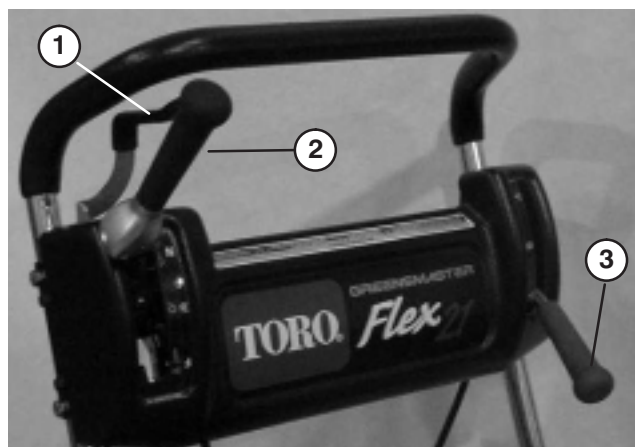

Figure 23
The throttle control (Fig. 23) is located on rear right side of control panel. Lever connects to and operates throttle linkage to carburetor. Engine speed can be varied from 2400 RPM to 3600 RPM.
The traction and reel drive engagement lever (Fig. 23) is located on front right side of control panel. Traction lever has two positions: Neutral and Forward. Pushing lever forward engages traction drive.
The service/parking brake (Fig. 23) is located on left front side of control panel. Use brake to slow or stop machine. The brake can also be used as a parking brake. Pulling the lever back over center will set the parking brake. Brake must be released before traction drive is engaged.
4. Move throttle control (Fig. 23) to Fast position.